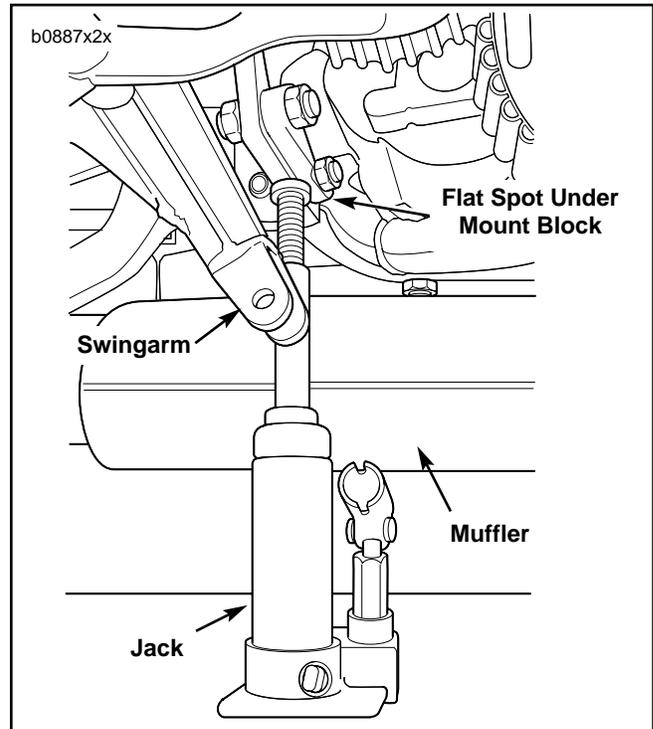

Figure 1. Jack Location on Mount Block
4. See Figure 1. Place a suitable jack under the swingarm mount block and raise until crankcase is supported by jack.